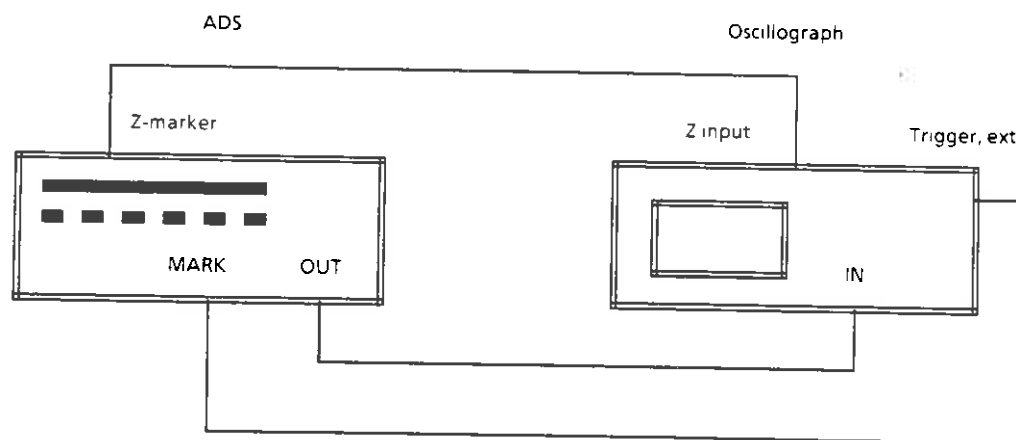

Fig. 3-10
At the Z-MARKER output [21] on the rear of the instrument, the current cursor position (X) is output as Z-marker. If a segment is marked in the BLOCK editor, two Z-markers are generated: one Z-marker at the starting position of the selected segment (X1), the second at the end position of this segment (X2). Fig. 3-10 shows the test setup recommended for editing.